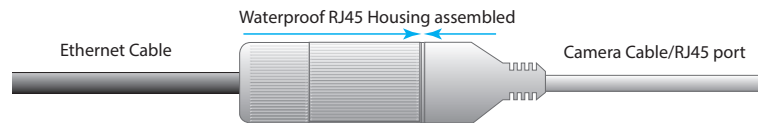

Fig. 2.5
10. Assemble the plastic waterproof housing together to seal the connection, see Fig. 2.5.